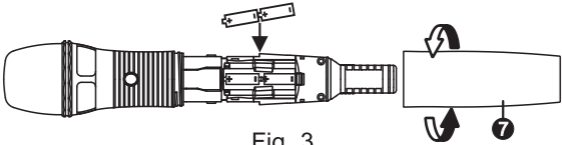

Fig. 3
2. ACT-52H, Fig. 3:
- (A) Gently twist and remove and Bottom Housing ⑦ counterclockwise.
- (B) Insert two new AA alkaline batteries with positive + toward microphone grille in the battery compartment.